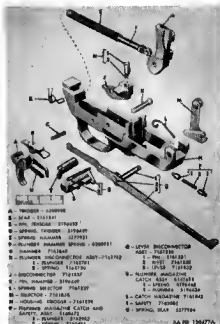

Figure 56. Trigger housing group - carbines M2 and M3.
b. Trigger Housing (Fig. 56). See page 62 for inspection of the trigger housing. Also inspect the selector spring retention slot in left magazine post for foreign matter and positive spring seating so that spring will not turn when assembled.
c. Hammer (Fig. 56). See page 63 for inspection of the hammer. Also inspect milled cut on lower right side of hammer, which allows clearance for disconnecter, for burrs and wear (Fig. 49).
e. Trigger (Fig. 56). See page 64 for inspection of the trigger.
f. Trigger Spring (Fig. 56). See page 64 for inspection of the trigger spring.
g. Sear (Fig. 56). See page 64 for inspection of the sear. Also inspect top front portion (camming surface for disconnecter) for burrs and wear.
h. Sear Spring (Fig. 56). Check sear spring for positive seating in trigger and gear. Check for functioning, rust and set. Visually inspect during repair. Replace during rebuild.
i. Safety (Fig. 56). See page 65 for inspection of the safety.
j. Magazine Catch (Fig. 56). See page 56 for inspection of the magazine catch.
k. Disconnecter (Fig. 56). See that bearing slot in front end of disconnecter is free from foreign matter and burrs and is lightly lubricated. See that disconnecter spring is not weak, rusted, or broken, that spring well is free of foreign
l. Disconnecter Lever Assembly (Fig. 56). Examine the rivet of the disconnecter lever assembly which pivots the lever in the flat crank shaped end of the pin, to determine that the rivet is secure, that the hole in the crank of the pin is not enlarged, that this pivot is free from burrs, and is not worn. See that lever is not distorted or twisted on rivet, that it is free to rotate on the rivet and that ends are free from burrs and wear. Offset in rear section of lever is for alignment with disconnecter and should not be straightened. Be sure toe (front end) of lever bears squarely on cam on operating slide and is (slide retracted) under raised boss when lever is fully seated in the housing. See that holes in trigger housing for pin of disconnecter lever assembly are not enlarged.
m. Selector and Spring (Fig. 56). See that disconnecter pin slot in selector is not worn so it will cause lost motion or impair security. See that spring recess in rear end is free from foreign matter and will retain spring securely. See that selector spring is bent in only one plane (not twisted) and both ends seat securely in their retention recesses. If spring is loose when assembled, straighten slightly.